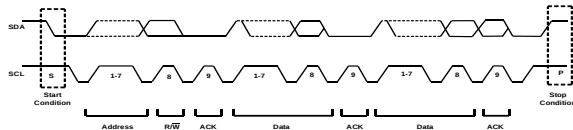

Figure 8: Complete Data Transfer
Figure 8 shows the complete data transfer format. After a start (S) condition, a slave address is sent. This address is 7 bits long, and is followed by an 8th data direction bit (R/W). A